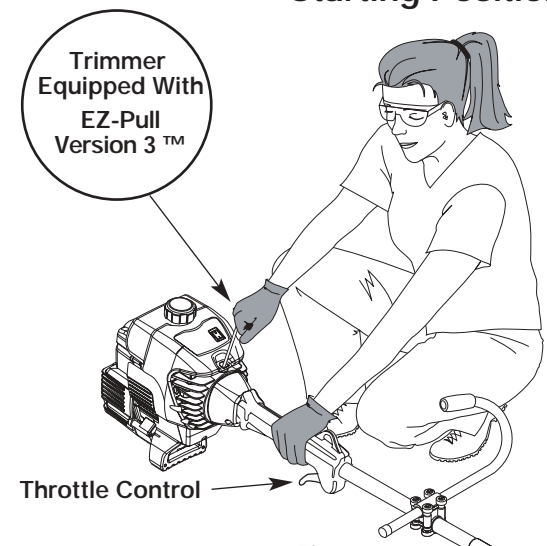

Fig. 8
WARNING: Avoid accidental starting. Make sure you are in the starting position when pulling the starter rope (Fig. 8). To avoid serious injury, the operator and unit must be in a stable position while starting. Make sure that any Add-On item is installed correctly and secure before starting the unit.
5. Crouch in the starting position and **do not squeeze the throttle control** (Fig. 8). Pull the starter rope out with a **controlled and steady motion** up to 10 times. Repeat until the engine starts.